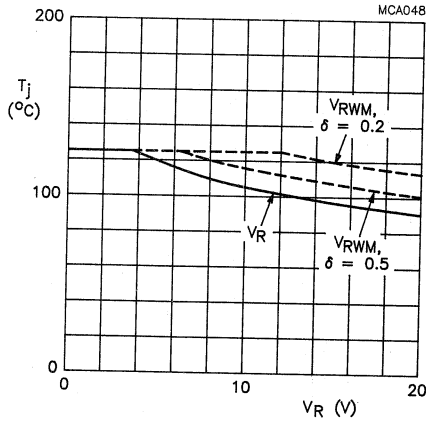

Fig.7 **PRLL5817**. Maximum permissible junction temperature as a function of reverse voltage; device mounted as shown in Fig.2.
2. Determine the maximum permissible junction temperature  $T_{j \max}$  (125 °C or the temperature at which thermal runaway occurs, whichever is lowest) from Figs 7, 9 or 11.